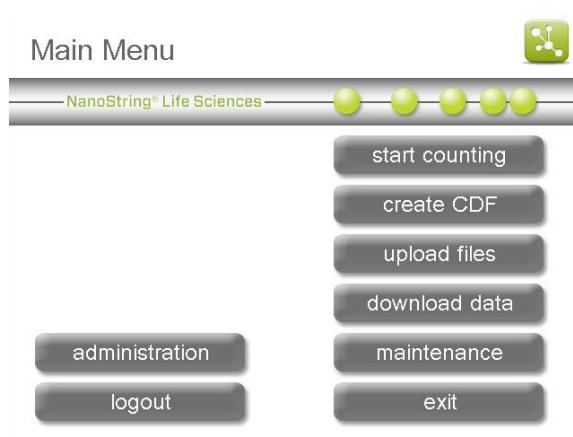

Figure 83: The Main Menu.
- From the Main Menu (**Figure 83**) select **start counting**.